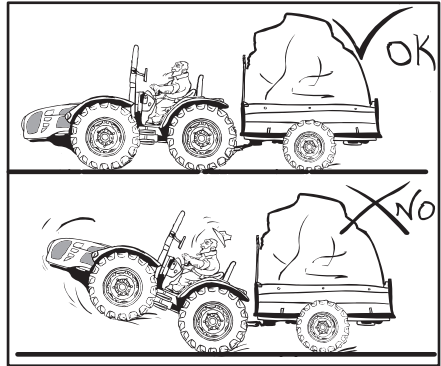

Fig. 2.21
- Tow only from the drawbar. Towing or hitching from other points can cause the tractor to overturn (Fig. 2.21).